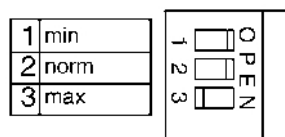

Fig. 14: DIP switch
3. Change the DIP switch on the electronic circuit to the desired dosing rate *min*, *norm* or *max* (see Figure 14).